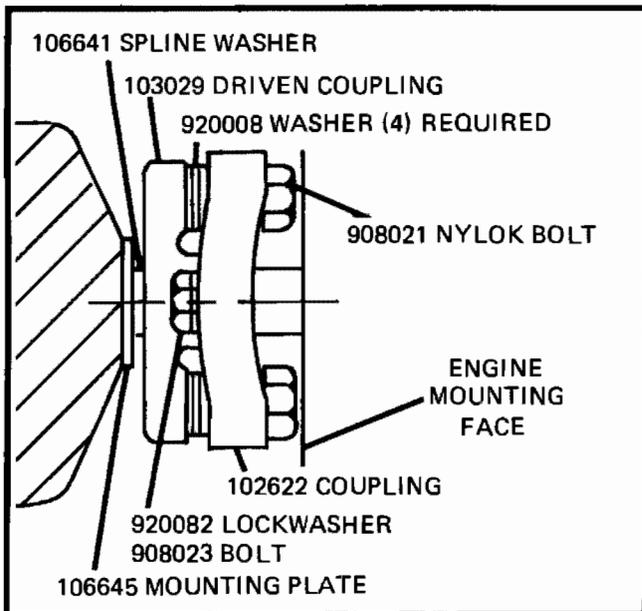

Fig. 1-3 D-200 Flex Coupling
- b. D-200 - install engine/pump flex coupling parts as shown in Fig. 1-3